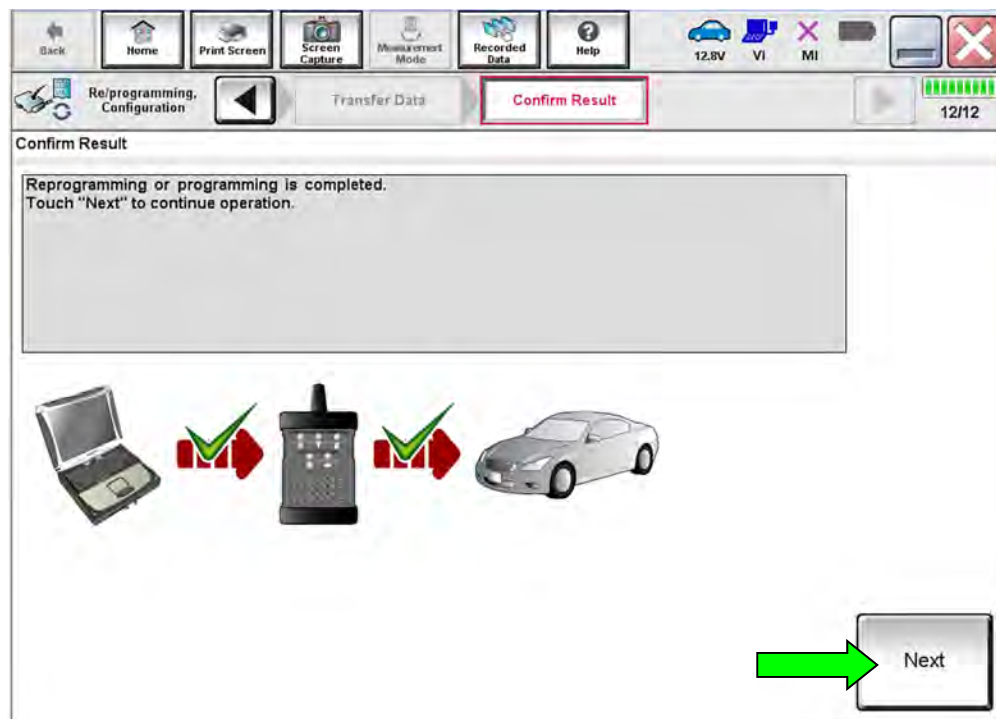

Figure 29
46. When the screen in Figure 29 displays, reprogramming is complete.
- HINT:** If the screen in Figure 29 does not display (indicating that reprogramming did not complete), refer to ICC/ADAS recovery on the next page.